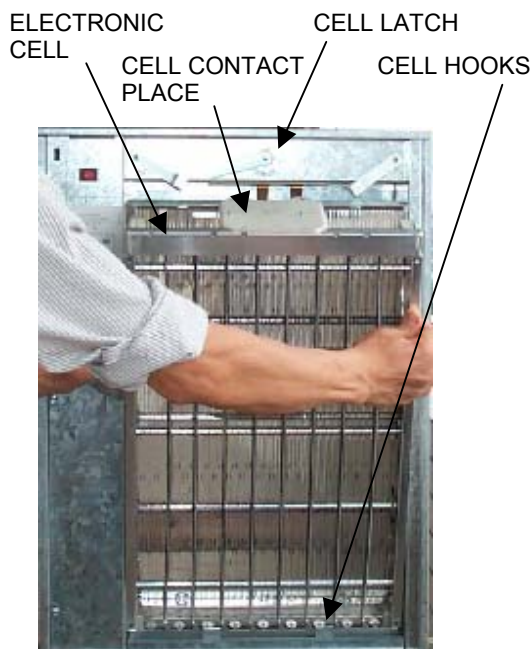

Fig. 11. Make sure hooks snap over edge of cell.
1. Hold the cell by the handle and fit the end of the cell behind the metal hooks. See Fig. 11.